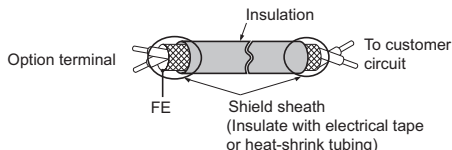
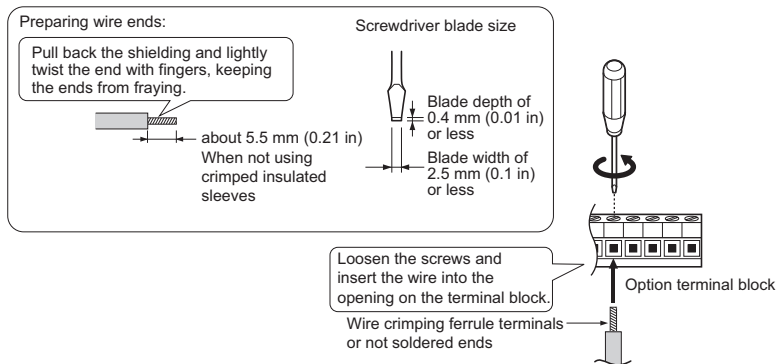

Figure 6 Prepare Ends of Shielded Cable
Figure 7 Connect Cable Wiring
4. Prepare and connect the wire ends as shown in Figure 6 and Figure 7. Refer to Wire Gauges and Tightening Torques on page 36 to confirm that the proper tightening torque is applied to each terminal. Take particular precaution to ensure that each wire is properly connected and wire insulation is not accidentally pinched into electrical terminals.
5. Wire the customer-supplied circuit to the terminal block on the option according to Figure 7. Refer to Figure 26 for the AO-A3 Option connection diagram. Refer to Table 5 for a detailed description of the option terminal functions.